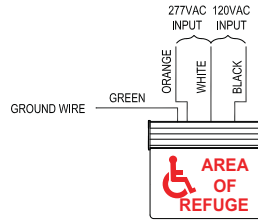

Fig. 5 Wiring diagram
Step 7	Make the proper supply lead connections, see Figure 5. If using 120VAC, connect the black and white leads to the building utility. If using 277VAC, connect the orange and white leads to the building utility. Cap off unused wires. Use standard wire nuts when connecting to leads.